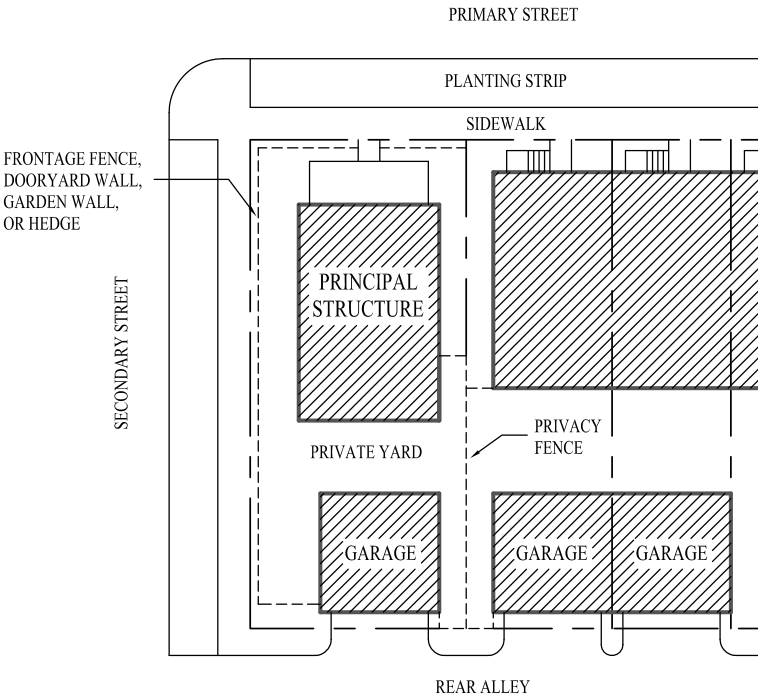

Figure 29
- permitted to extend up to 12’ forward of the primary structure. See Figure 29.